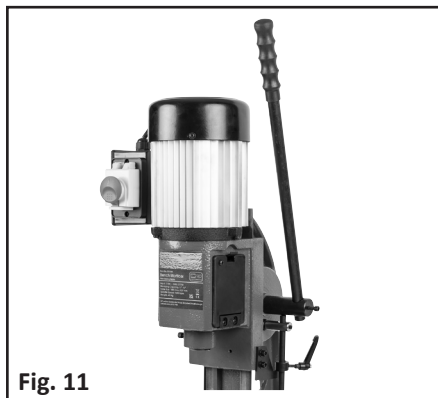

Fig. 11
1. Pull the handle to lower the machine head. Fig.11.